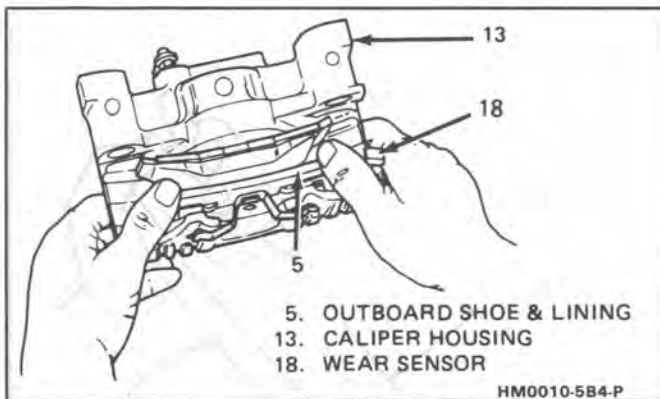

Fig. 10 Installing Outboard Shoe & Lining
3. Outboard shoe and lining (5) with wear sensor (18) at leading edge of caliper during forward wheel rotation. Back of shoe must lay flat against caliper (Figure 10).